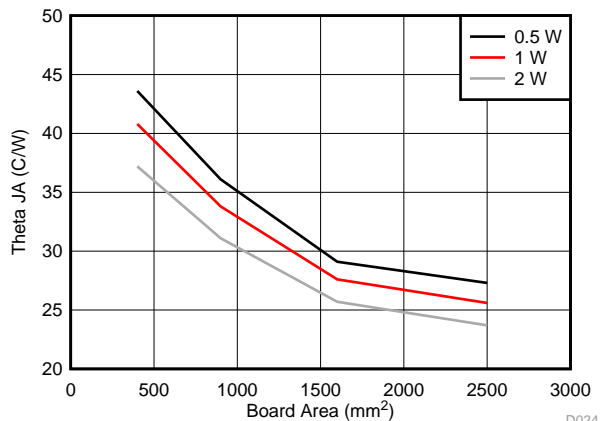

Figure 17. $R_{\theta JA}$ versus Copper Board Area
It is easy to see that larger ambient temperatures (T_A) and larger values of R_{θJA} will reduce the maximum available output current. As stated in SPRA953, the values given in the Thermal Information table are not valid for design purposes and must not be used to estimate the thermal performance of the application. The values reported in that table were measured under a specific set of conditions that are never obtained in an actual application. The effective R_{θJA} is a critical parameter and depends on many factors such as power dissipation, air temperature, PCB area, copper heat-sink area, number of thermal vias under the package, air flow, and adjacent component placement. The LM53603-Q1 utilizes an advanced package with a heat spreading pad (EP) on the bottom. This must be soldered directly to the PCB copper ground plane to provide an effective heat-sink, as well as a proper electrical connection. The resources found in Table 9 can be used as a guide to optimal thermal PCB design and estimating R_{θJA} for a given application environment. A typical example of R_{θJA} versus copper board area is shown in Figure 17. The copper area in this graph is that for each layer of a four layer board; the